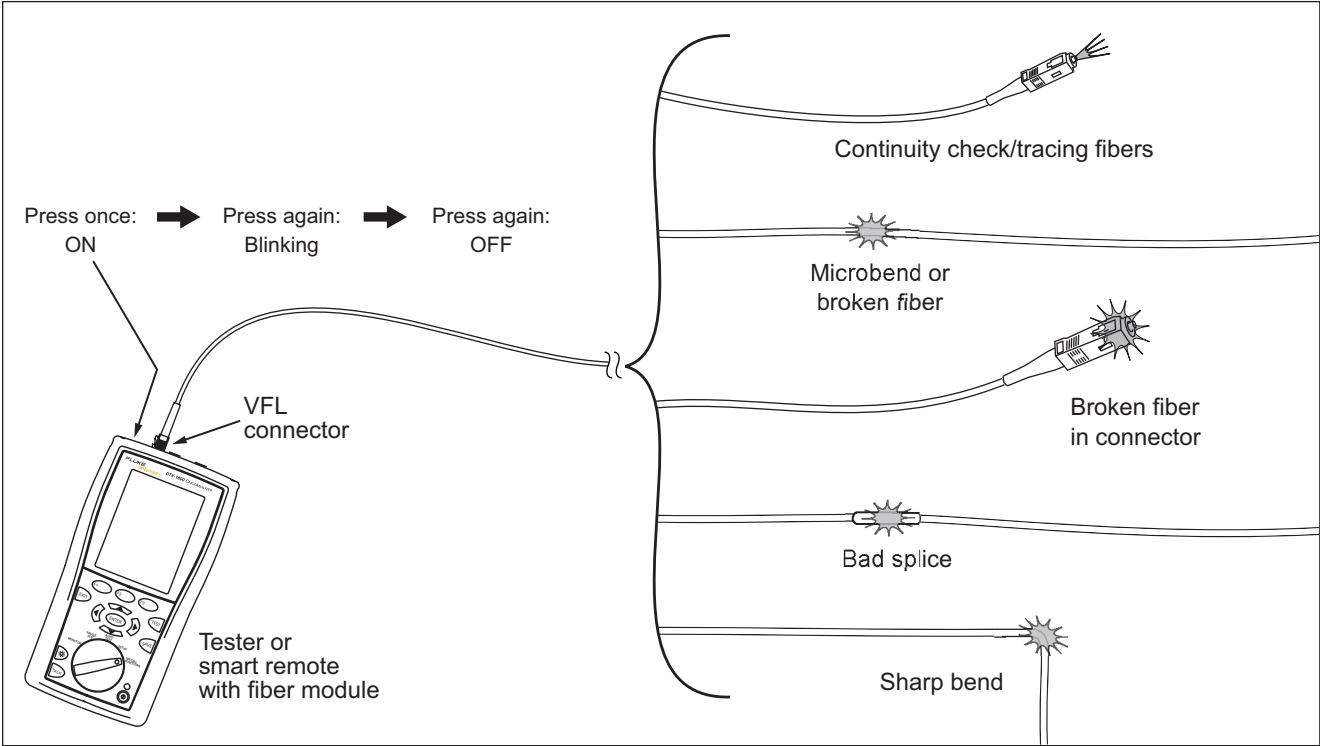

Figure 15. Using the Visual Fault Locator
- 3** Turn on the visual fault locator by pressing the button near the VFL connector, as shown in Figure 15. Press again to switch to flashing mode. Press again to turn off the locator.
- 4** Look for the red light to locate fibers or faults (Figure 15):